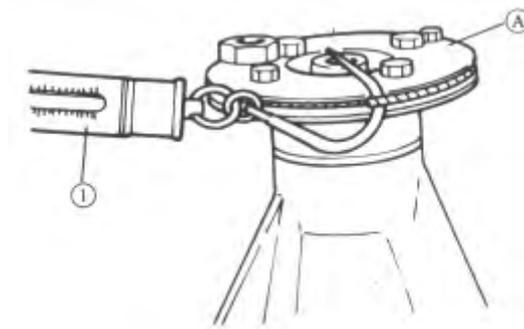

FIG 13-29: 1-Spring balance; A-Pre-force inspection torsion pulley(diameter 100mm)
(6) Tighten drive gear lock nut with special wrench to specified torque of 170~220N.m. Measure gear start torque referring to FIG. 13-29. If torque exceeds standard range(0.392~0.686N.m), remove it. Rechoose adjusting washer with proper thickness. Repeat steps (5) and(6) until abstain right torque.
(7) Remove drive gear. Install drive gear seal into head of reduction final drive case and apply grease to seal lip. If clearance exceeds service limit, replacement is necessary
(8) Install drive gear into gear saddle. Install drive gear bush, drive gear pre-force adjusting washer, front bearing cone, connecting universal joint flange, washer, driver gear lock nut.
(9) Retighten drive gear lock nut to specified torque of 170~220N.m and check gear start torque(FIG.13-29). The torque should be within 0.588~0.882 N.m or not rechoose drive gear pre-force adjusting washer. Repeat step (5)~ (9), until obtain right torque.